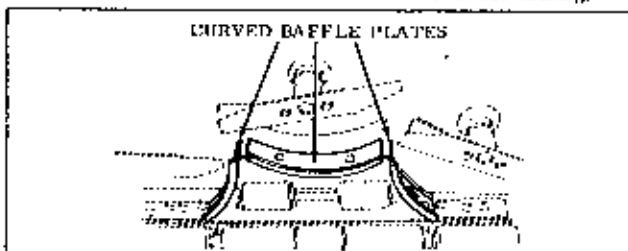

FIGURE 6
3. Install the curved mulcher baffles (Left Hand, Right Hand and center) as shown in Figure 6. These baffles are each held in place by 2 carriage bolts, lockwashers, and hex nuts. Note that lockwashers, and hex nuts are on the inside of the baffle support.